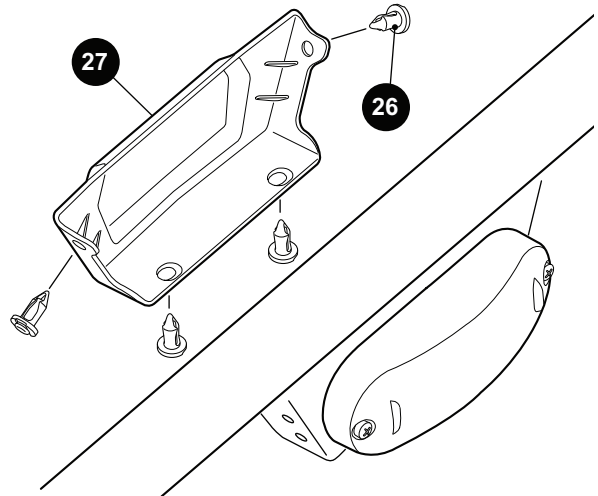

Fig. 4 Brake Light
1. Remove the four plastic rivets (26) that secure the back cover (27) to the back of the light (Ref. Fig. 4). Remove the back cover.